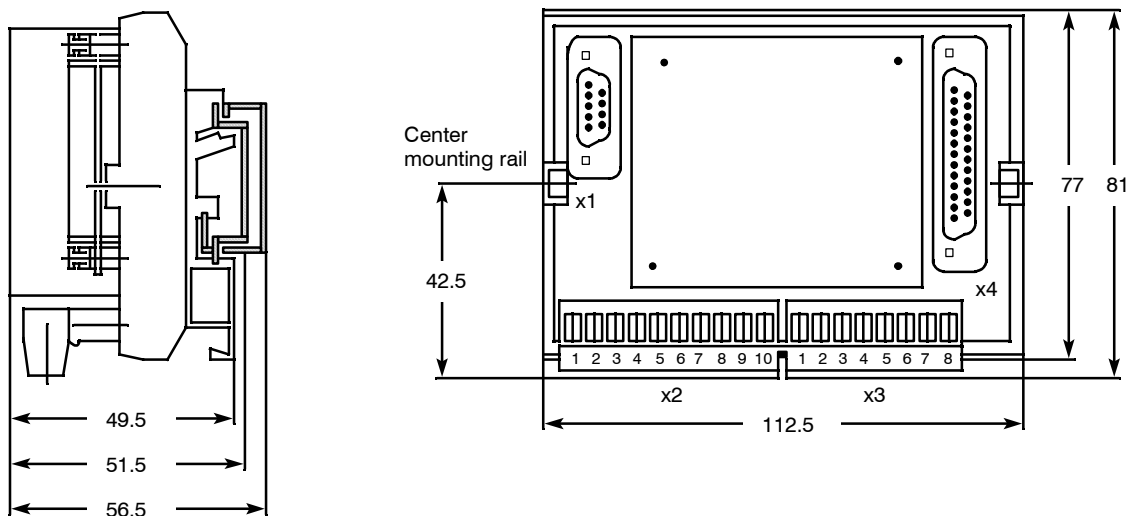

Figure 2-8 Dimensioned drawing SIPART bus driver, dimensions in mm
- **Dimensioned drawing** see fig. 2-8, page 54
see figure 2-8